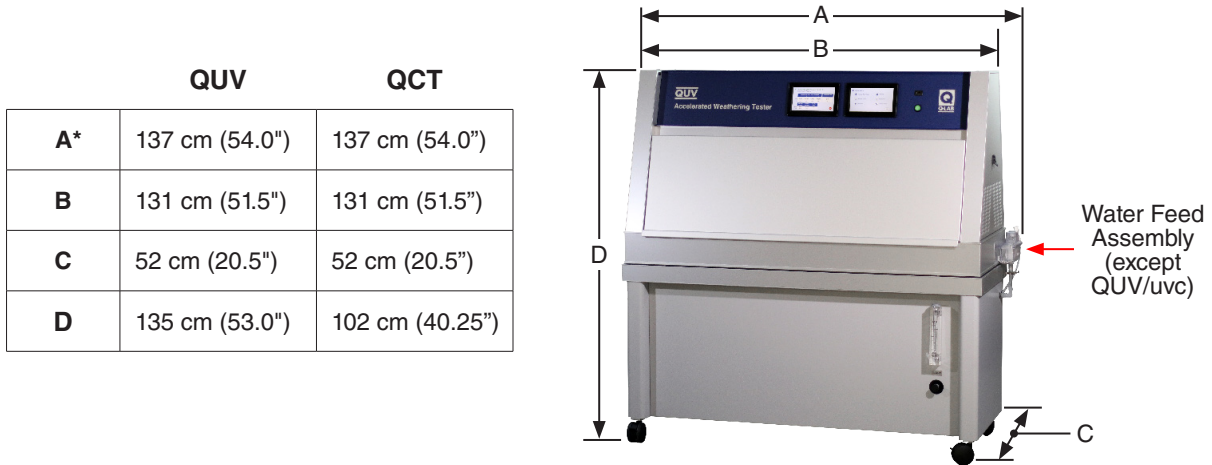

Figure 6.1a: External dimensions (QUV shown).
- The external dimensions for QUV and QCT testers are listed in Figure 6.1a.